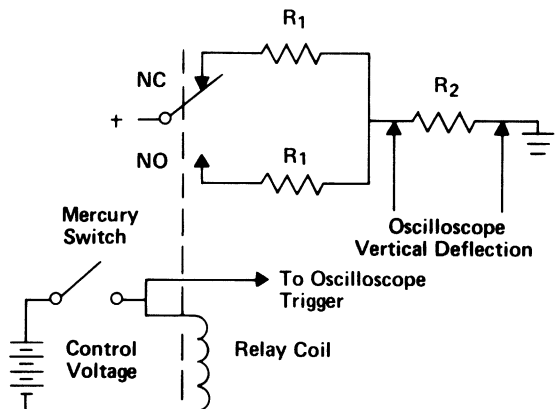

Fig. 9A — Circuit used for pickup (operate) and dropout (release) times.
2.1 General: This test method specifies the procedure to be used in the measurement of pickup, dropout, and bounce time of the reed relay using an oscilloscope. See Figure 9A.